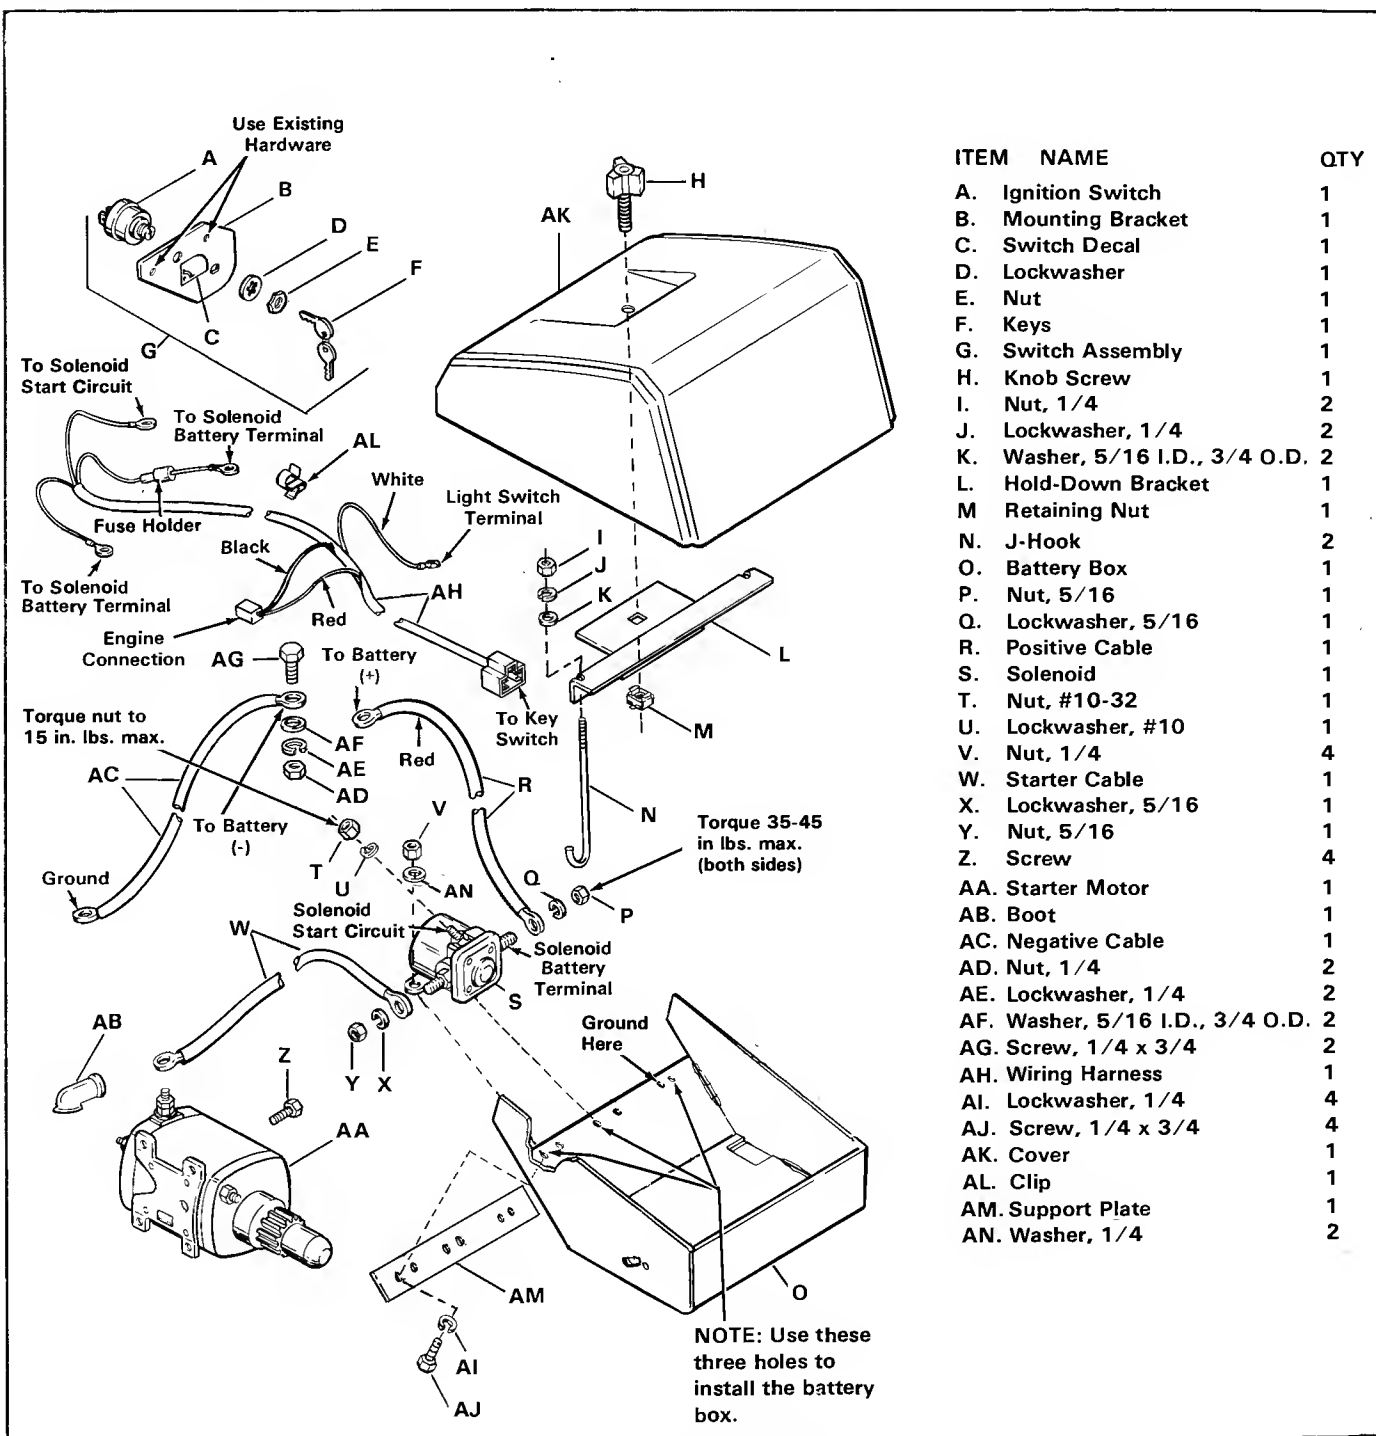
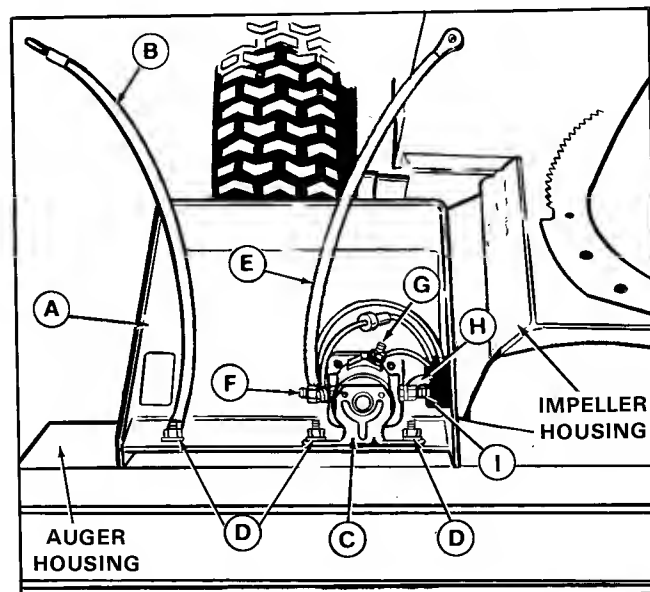
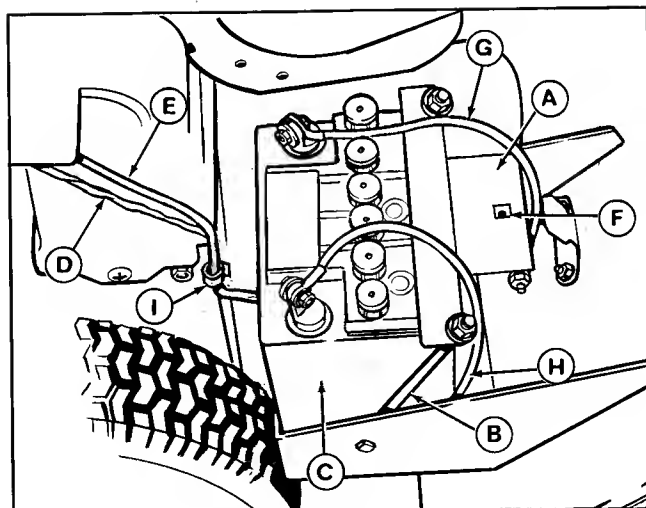

Figure 1. Electric Start Kit
Figure 3. Battery Box
Figure 7. Battery Installed
Take an inventory of the parts in the kit by referring to figure 1. Part numbers for the items can be found in the snowthrower parts manual.
6. Three 17/64 inch (6.7 mm) holes must be drilled in the snowthrower housing to mount the battery box. See the note in figure 1 to determine which holes in battery box will be used. Position the battery box as shown in figure 3. The front, bottom surface must be flat against the auger housing. The battery box must be level. When the battery box is positioned, mark the three holes (in auger housing) then remove the battery box.
7. Install the battery box (O, figure 1), support plate (AM), negative cable (B) (15" long), and solenoid (S) as follows.
- f. Connect the purple wire to the small terminal (G, figure 3).
- g. Connect the remaining two wires and the positive cable (E) (10-1/4" long) to the solenoid battery terminal (F).
14. Connect the starter motor cable (H, figure 3) (25" long) to the solenoid starter terminal (I). Route the cable down thru hole in battery box.
15. Secure the wiring harness in the clip (I, figure 7) and insert the clip into slot in snowthrower housing.
16. Connect the other end of the cable (E, figure 7) to the starter motor (AA, figure 1). Be sure the boot (AB) is in place over in the terminals.
17. Make sure the retaining nut (F, figure 7) is securely positioned in the hole in the battery clamp.
18. Hook the J-hooks (B, figure 7) into the holes in each side of the battery box. Place the battery in the box with the positive post on the solenoid side.
19. Position the battery clamp (A, figure 7) onto the J-hooks and battery as shown. Install a 1/4" washer, lockwasher and nut on each J-hook to secure the clamp (A).
20. Connect the red positive cable (G) to the battery positive post. Connect the black negative cable (H) to the battery negative post.
22. Position the cover (AK, figure 1) onto the battery box, and thread the knob screw (H) thru cover and into the retaining nut. This completes the installation.